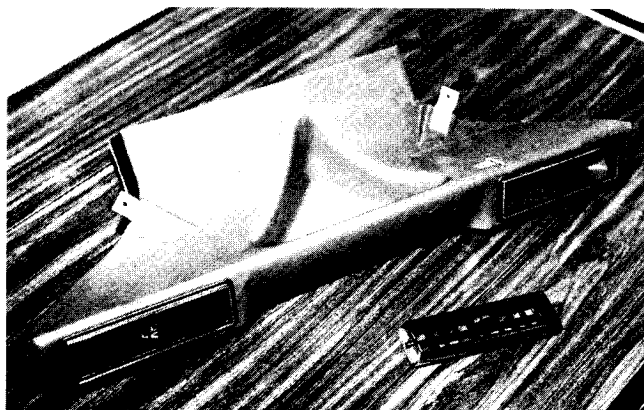

FIGURE 25
32. Reinstall trim pieces with bezels into duct assembly (Figure 25).